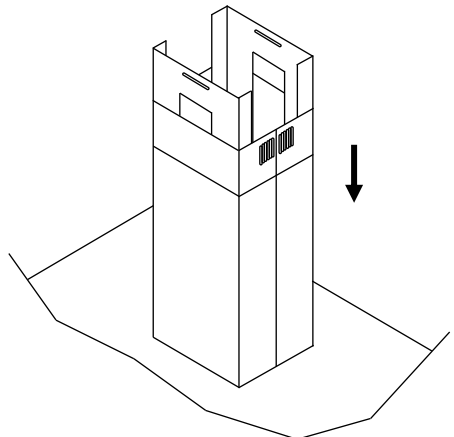

Fig 7
5. Attach the chimney onto the chimney sleeve (Fig 7).